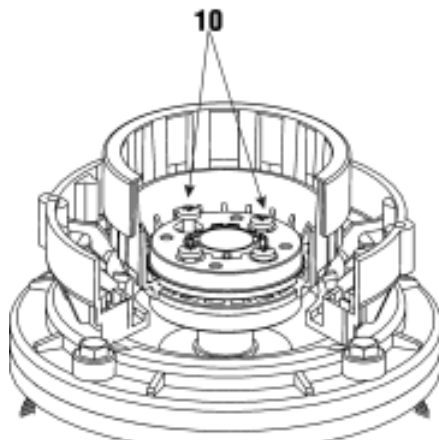

Fig. 9.1 F Drive magnet assembly dismantling
- **Warning:** Before separating the impeller assembly (Fig. 9.1 C - Pos.5) from magnetic core (Fig. 9.1 C - Pos.23), unscrew the 4 plastic lock screws (Fig. 9.1 C - Pos.22)